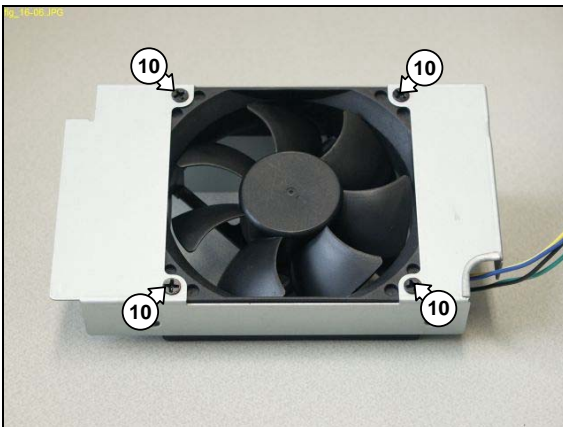

Figure 12.15-6
2. Remove the 4 mounting screws (10) from the CPU fan. See Figure 12.15-6.